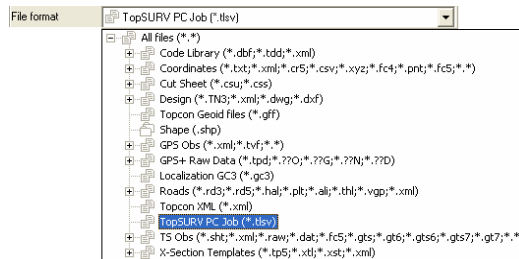

Figure 3-30. File Format List
- the File format (Figure 3-30).